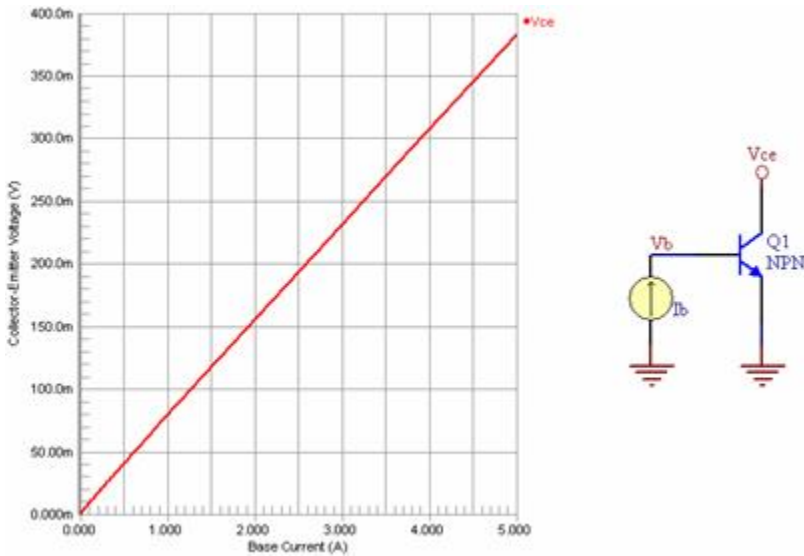

Figure 13. Example graph and circuit for VCE vs. IB.
This data is used for initial extraction of the RE parameter. Figure 13 shows an example graph of the Collector-Emitter voltage (VCE) versus Base current (IB), and also an example test circuit, from which measurements could be taken to obtain the data. The circuit forces a current into the Base, while measuring the open-circuit Collector-Emitter voltage.